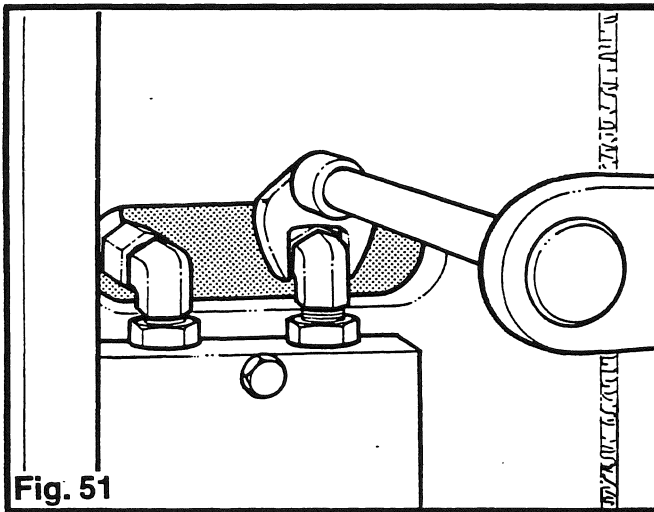

Fig. 51
2. Disconnect the top hydraulic tubes. (Fig. 51) Plug the fittings and ports to prevent contamination.